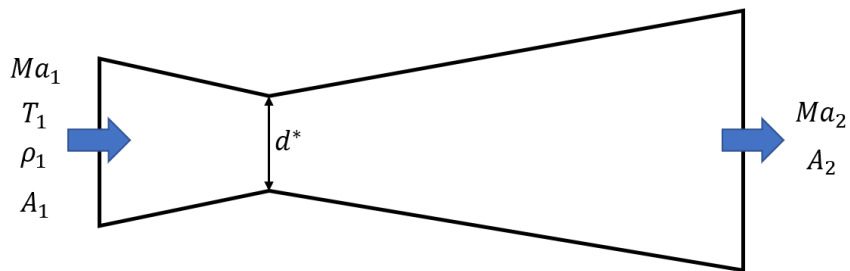

Figure Q4: Schematic of converging-diverging nozzle.
4. A converging-diverging nozzle, see schematic in Figure Q4, is used to accelerate the flow of a gas from subsonic inlet conditions to supersonic conditions. At the inlet section, denoted as section 1 in Figure Q4, the gas enters with $Ma_1 = 0.8$, temperature $T_1 = 600\text{ K}$, density $\rho_1 = 5\text{ kg}\cdot\text{m}^{-3}$; the nozzle has a circular cross-section and the inlet area is $A_1 = 0.05\text{ m}^2$. The specific heat ratio is $\gamma = 1.4$ and the specific gas constant is $R = 287\text{ J}\cdot\text{kg}^{-1}\text{K}^{-1}$. The flow is isentropic and adiabatic through the nozzle.
(c) In order to achieve $Ma_2 = 2$ at the nozzle outlet, section 2 in Figure Q4, what must the area of the outlet section of the nozzle be? [2]